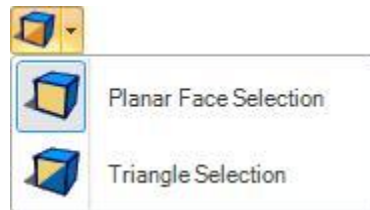

Figure 4.6 - Face selection types
When creating complex objects and models, you may need access to object faces, vertices, edges, and triangles (or segments). To edit these sub-elements of an object, you must first be able to select them. To do this, you can click on the selection modes that best suits the work you need to do, and then click on the object in the viewport to make selections in that mode. An example of each selection mode is given in Figure 4.6.
- **Select Faces Only** : This mode lets you select individual faces of 3D objects. It is actually a drop-down button (see Figure 4.6) which also lets you choose if you want to select *planar faces* or *triangular sections of faces*. This mode can be particularly helpful if you want to shape a terrain on your own: just start with a flat terrain and select triangle faces to be raised or lowered depending on your needs, to create hills, mountains, lakes, rivers, seas, etc. This mode is also used for advanced model design.